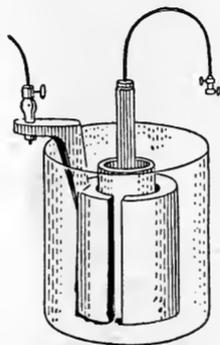

FIG. 8.
**30.** A BUNSEN CELL consists of a glass vessel containing sulphuric acid, in which stands a zinc cylinder, and in this a cup of porous earthenware containing nitric acid and hard carbon. The nitric acid and the sulphuric acid unite sufficiently through the porous cup to produce an electric current. The nitric acid is used as a depolarizer, but would consume the zinc very rapidly, if it touched it. The Bunsen cell's E. M. F. is 1.9 volts, intern. resist, = 0.25 ohm. It is not used much, being very-expensive, and because of the poisonous gases it produces.—The GROVE CELL (fig. 8) is the same as the Bunsen, substituting platinum for carbon. E. M. F. = 1.95 volts, intern. resist. = 0.15 ohm.